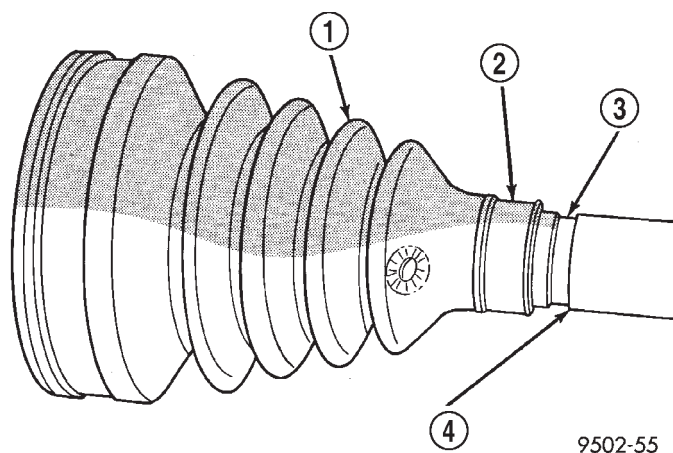
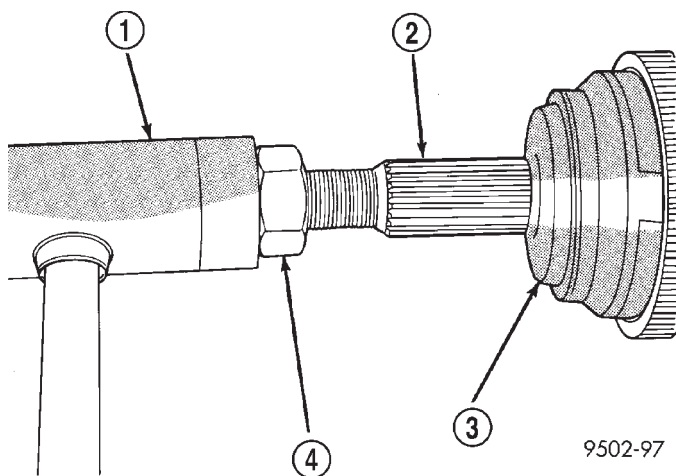

Fig. 44 Sealing Boot Installation on Interconnecting Shaft
Fig. 45 Outer C/V Joint Installation on Interconnecting Shaft
(1) Slide new sealing boot to interconnecting shaft retaining clamp onto interconnecting shaft. Slide the outer C/V joint assembly sealing boot onto the interconnecting shaft (Fig. 44). **Seal boot MUST be positioned on interconnecting shaft so the raised bead on the inside of the seal boot is in groove on interconnecting shaft.**
(2) Align splines on interconnecting shaft with splines on cross of outer C/V joint assembly and start outer C/V joint onto interconnecting shaft.
(3) Install outer C/V joint assembly onto interconnecting shaft by using a **soft-faced hammer** and tapping end of stub axle (with nut installed) until outer C/V joint is fully seated on interconnecting shaft (Fig. 45).